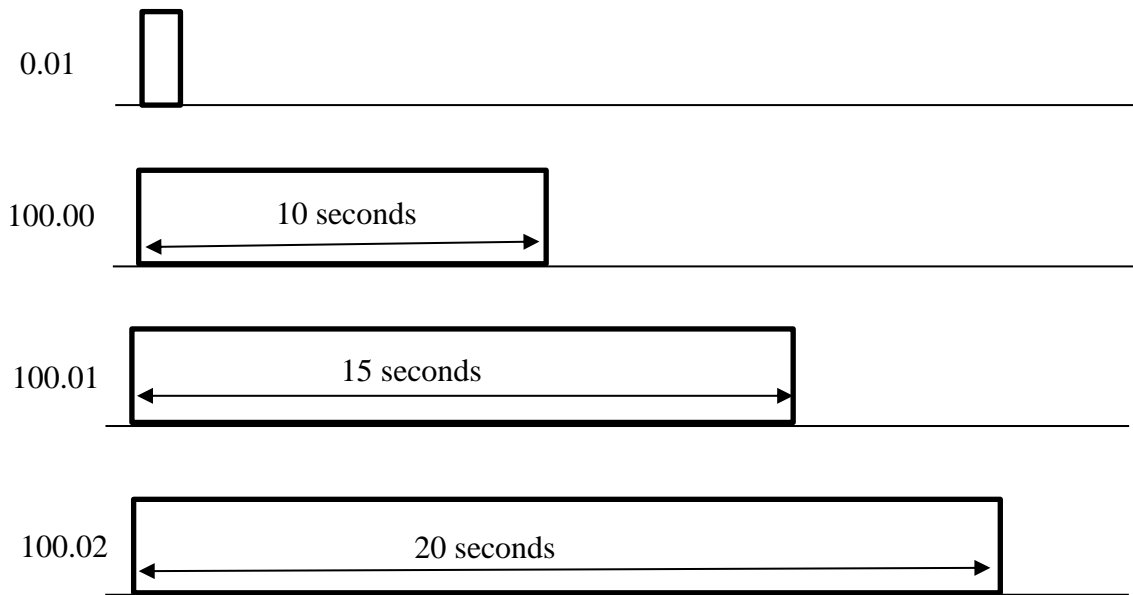

Figure A2(b)/Rajah A2(b)
- (b) By using the basic timer instruction, draw a ladder diagram which would produce a timing diagram as shown in Figure A2(b).